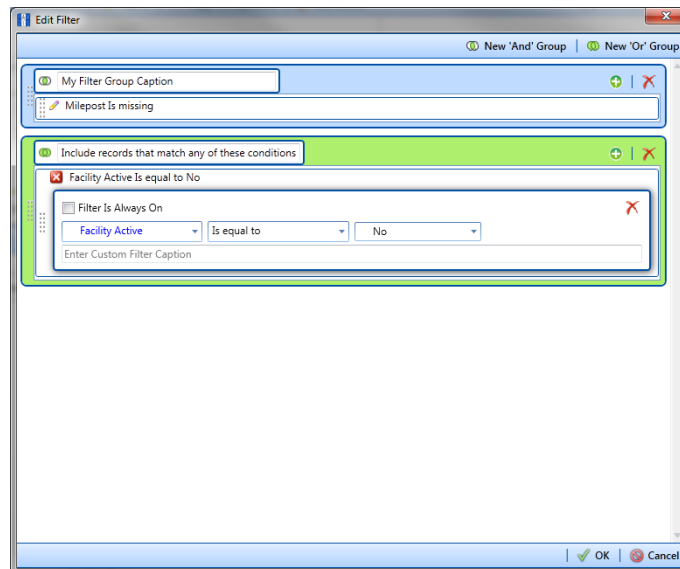

Figure 10-46. New 'Or' Filter Group
- a Click **New 'Or' Group** to open a filter properties group box (Figure 10-46).